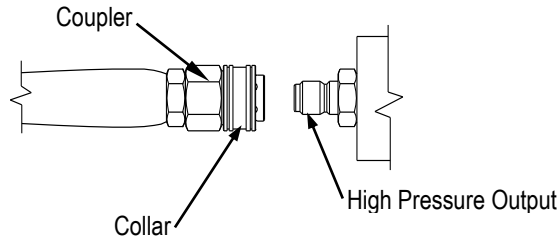

Figure 2b
- 3) Release the collar, making sure it springs back and re-seats to its original (non-retracted) position (Figure 2b). Check the connection by pulling on the hose to ensure a positive connection.